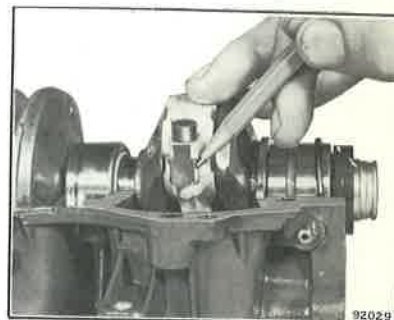
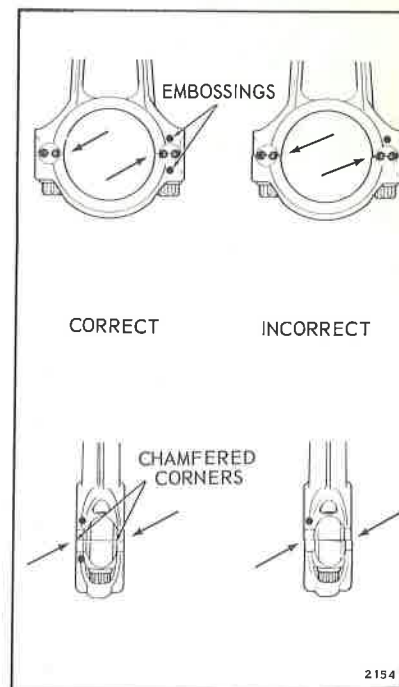

Figure 5-25. Checking Connecting Rod Cap Alignment
Figure 5-26. Correct and Incorrect Alignment
f. With roller bearings in place, attach connecting rod caps. Connecting rod caps are not interchangeable with those of other rods, neither may the caps of the same rods be turned end for end. To assist correct assembly, small raised dots are provided on matching sides of rod and cap. Draw a pencil over chamfered corners on both sides of rod to make certain that cap and rod are aligned at this point. If not aligned, chamfered corners can be felt with the pencil point. See Figure 5-25. Misalignment will affect free normal action of the rollers, and may result in damage later on. See Figure 5-26.